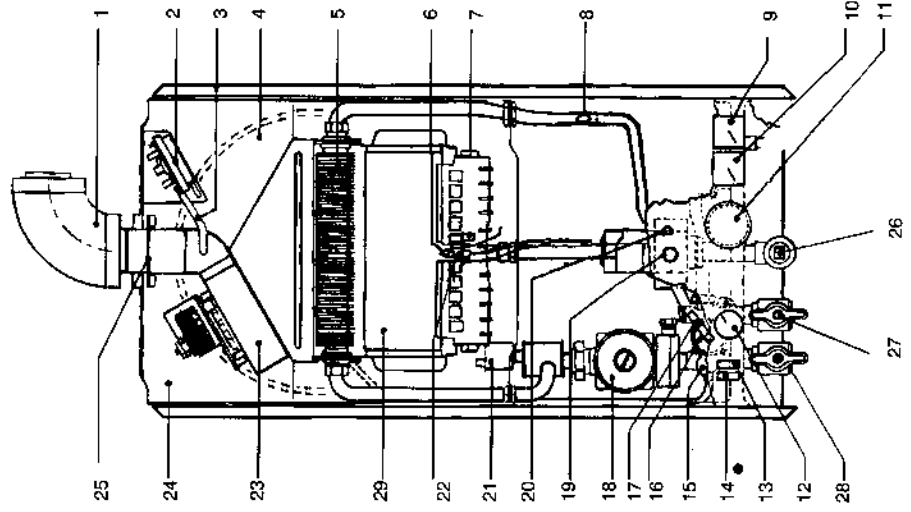

Fig.1 General Layout
- 2.1 Fig.1 illustrates the general layout of components. Fig.2 illustrates the operating principles described below